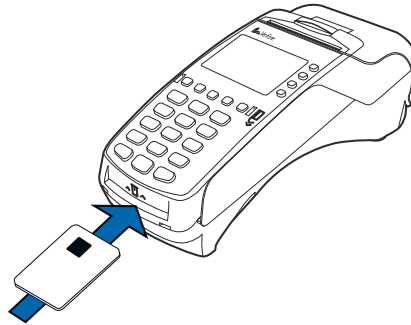

Figure 18 Inserting a Smart Card
- 1 Position a smart card with the contacts facing upward (see Figure 18).